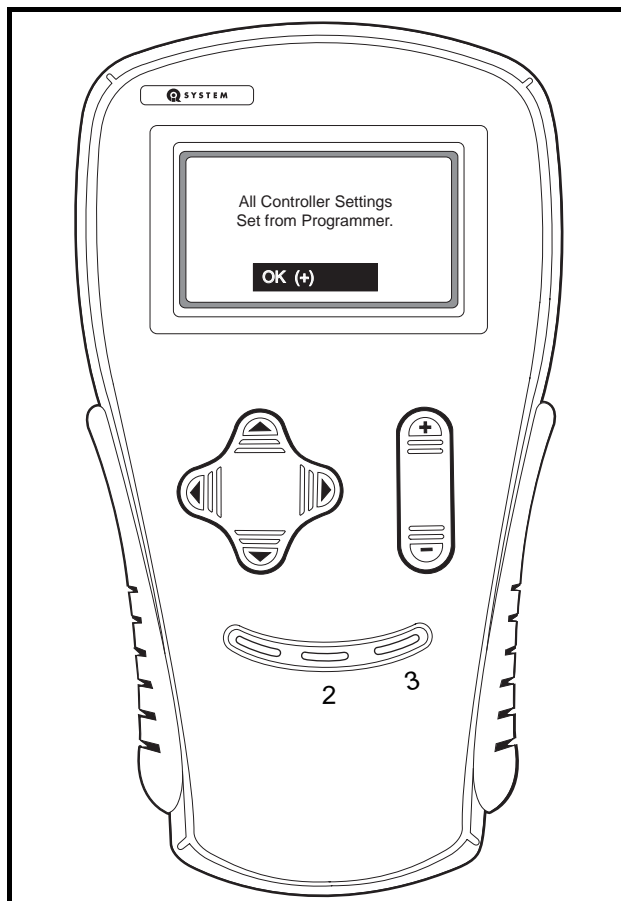

Figure 12-5 Confirmation Message
10. When the handset is finished transferring the speed controller settings, a confirmation message is displayed (**Figure 12-5**).